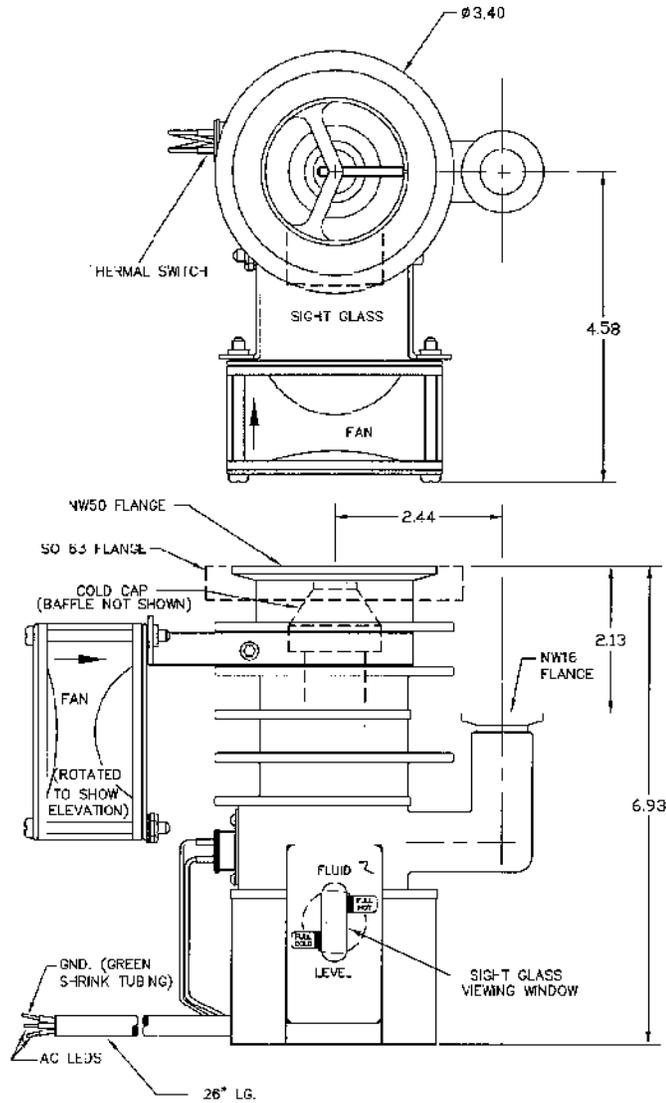

Figure 1-2 AX-65 Diffusion Pump Installation Diagram
Refer to Figure 1-2 during this procedure.
7. Ensure that the fan is mounted 90° from the foreline, as shown in the top view of Figure 1-2.
1. Connect the green insulation wire to ground (Figure 1-2).